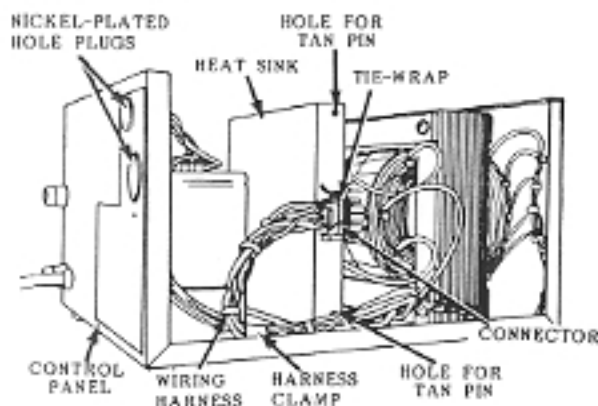

FIGURE 10
02.17 The harness is secured to the chassis with a cable clamp (Figure 10). Loosen the screw and nut slightly to allow movement of the harness.
02.24 Align the two tan-colored PBBU pins with the two holes in the heat sink (Figure 10). Press the pins into the holes until they catch.